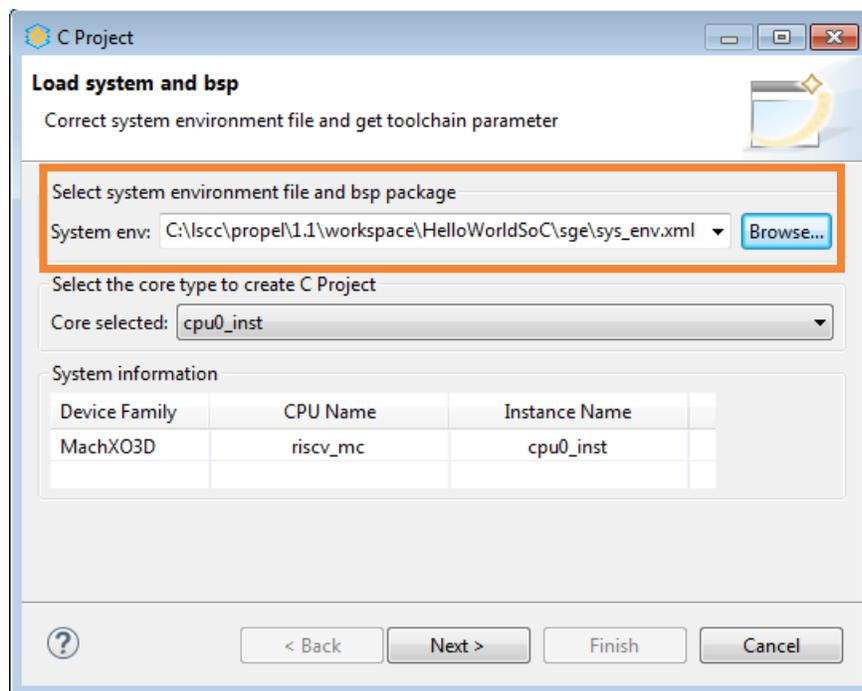

Figure 4.8. Load System and BSP Page
The C Project wizard opens with **Load system and bsp** page (Figure 4.8.).
4. Select the system environment file just generated (Figure 4.8.). Click **Next**.